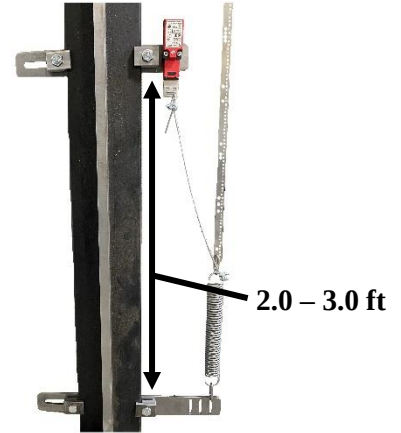

Figure 7: Tape Break Switch Assembly
12. Connect the supplied wire rope, from the pull tab key to the top of the tension spring using the supplied wire clamp. Leave some slack to allow key to be pulled. See Figure 7